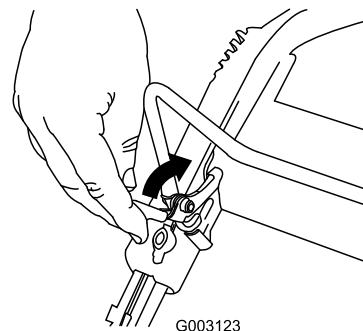

Figure 15
1. Pull the control-bar lock back (Figure 15).